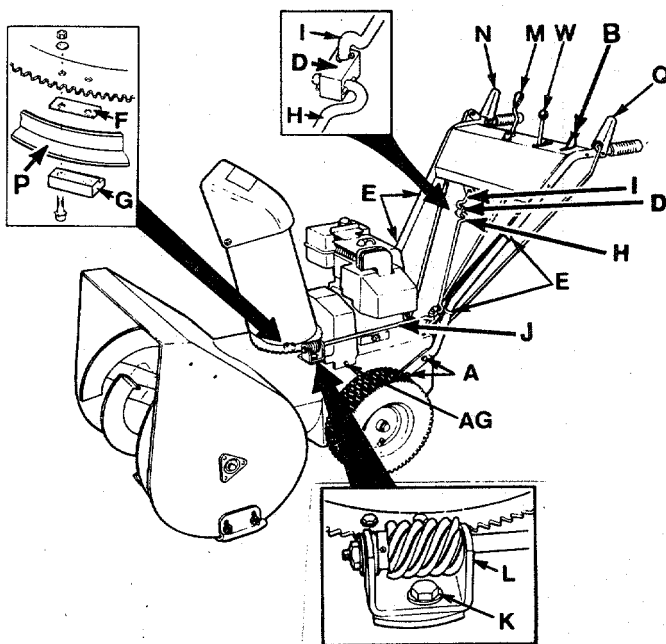
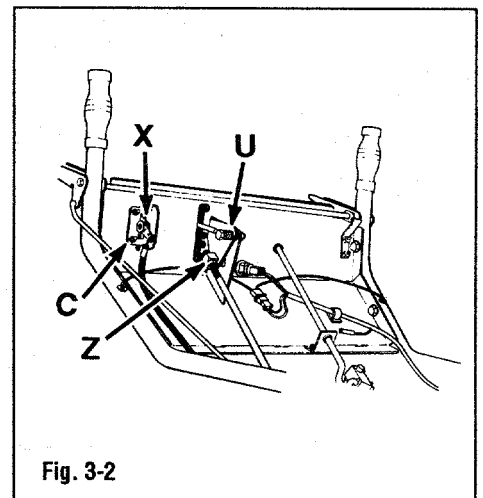

Fig. 3-1
Fig. 3-2
Secure handlebars to chassis with four 3/8-16 x 3/4 bolts (A, Fig. 3-1).
1. Insert throttle lever (X, Fig. 3-2) up through slot in left-hand side of control panel. Secure with #10–24 x 5/8 screws and #10 external lockwasher nuts (C). Screws must pass through holes in throttle base plate.
2. Place throttle lever knob (B, Fig. 3-1) in 200° F water for 30 minutes. Tap knob onto upper end of throttle lever.
1. Remove both side sets of shims and clips (F and G, Fig. 3-1 inset). Loosen but do not remove front shim and clip. Apply multi-purpose grease on surface of discharge chute flange (P).
3. Install worm gear support bracket (L). Teeth in worm gear must mesh with teeth in base of discharge chute assembly. Insert bolt (K) through hole in worm gear support bracket (L) and mounting tab on unit. Install and tighten nut on bolt (K).
A. Insert end of upper chute control rod (I, Fig. 3-1 inset) as shown into nylon swivel block (D) on end of middle chute control rod (H).
B. Insert a cotter pin through hole in upper section (I) of chute control rod. Bend cotter pin so it remains in hole. Repeat steps A and B for lower end of control rod middle section (H).
5. Rotate chute control crank (M, Fig. 3-1) at handlebar console. Deflector chute should turn without binding. Readjust bracket (L) and locknut (R) as necessary.
One end of auger drive control rod is already attached to auger drive handlebar control lever (N, Fig. 3-1).
One end of wheel drive control rod is already attached to wheel drive handlebar control lever (Q, Fig. 3-1).
4. While holding gear shift lower rod down, thread pivot block (Z, Fig. 3-2) so it fits into hole in gear shift lever upper section (U).
5. Reinstall pivot block (Z) in gear shift control lever hole and secure with flat washer and hairpin cotter. Tighten jam nut against pivot block.
6. Move gear shift control lever (W, Fig. 3-1) through full range of travel and check for binding, interference, etc.
1. Attach gear shift lever upper section (U, Fig. 3-2) and lower section (Z) together.
2. Move gear shift lever (W, Fig. 3-1) to fifth gear. Remove hairpin cotter and flat washer from pivot block (Z, Fig. 3-2). Disconnect pivot block from gear shift lever.